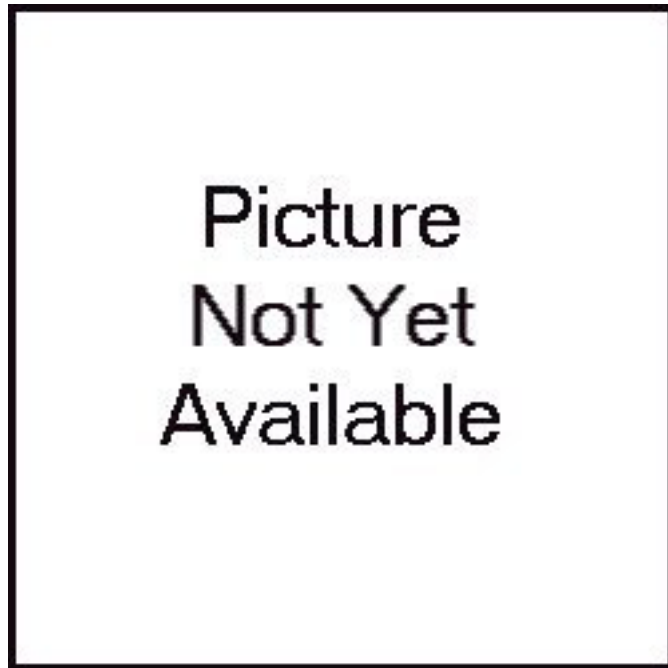
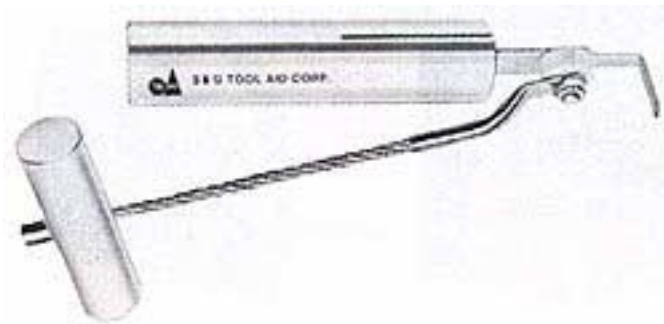

Figure 7 - Cutting the Rear Window Seal
Figure 8 - Windshield Removal Tool
2.3 Rear Window Glass. The existing, fixed rear window can be removed by any of several methods. The author used a utility knife with a long, flexible blade to cut the seal between the window glass and the body (Figure 7). A special tool is available to cut the seal - a utility knife with a handle attached that provides better leverage and control (Figure 8). Alternatively, you can take your Corvette to the local glass installer and have them cut the window out for you. Be extremely careful not to damage the edge of the glass or the body while cutting out the seal. Clean the remaining seal material from the glass and store the window in a safe place. The glass will not be reused.